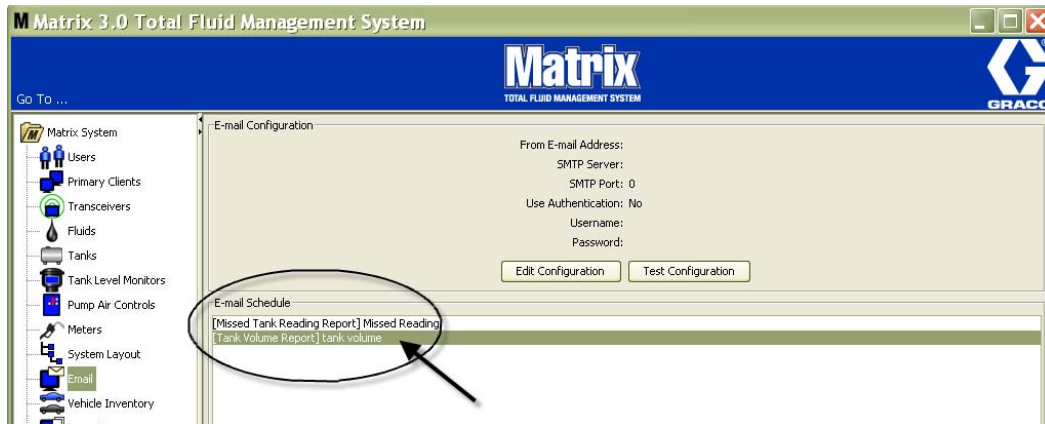

FIG. 161
3. The e-mail events you created are shown in the E-Mail Schedule portion on the main E-Mail Configuration screen as shown in FIG. 161.